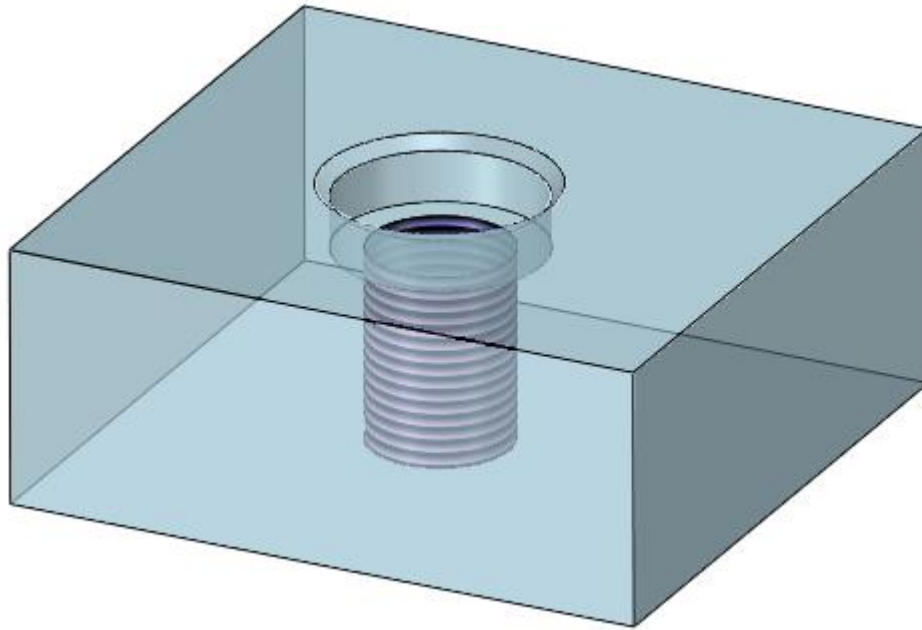

Figure 54 Thread Hole
STEP 05 Click ok to get the following result, as shown in Figure54.